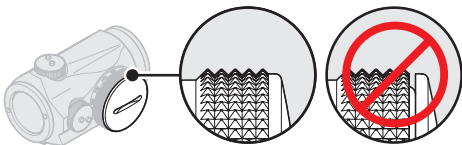

Fig. 5 The battery compartment with battery cap
Clean contact surfaces in the battery compartment and verify that the Battery (7) is working and that it is installed correctly according to 2.1.1. Verify that there is **zero** gap between the Battery cap (6) and the battery compartment. See Fig. 5. If the Rotary switch (8) is defective, notify local dealer/armourer.